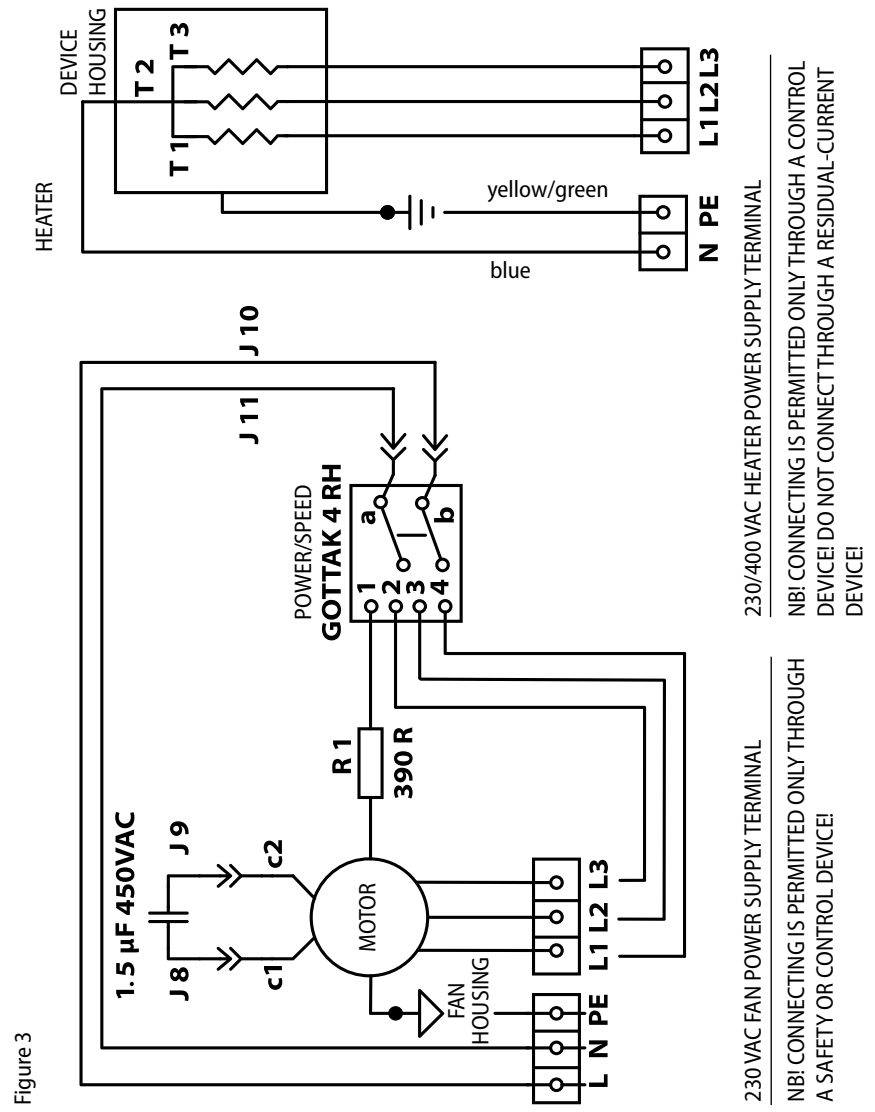

Figure 3
- The internal connections of the device are made by means of screw terminals according to Figure 3 (see page 31) and Table 1 (see pages 10–11) in this manual.
- Protective earthing (PE) must be connected to the connection terminal of the device, with the cross-sectional area of the cable being at least 2.5 mm2.
- If you want to connect the air circulation fan of the device separately from the heater control device, the fan must be connected via a residual-current device. In this case, the protective earthing (PE) of the fan supply input terminal of the sauna climate device must not be brought into contact with the protective earthing of the heater supply input terminal. In this case, use earthed cables of at least 1.5 mm2 to power the fan.